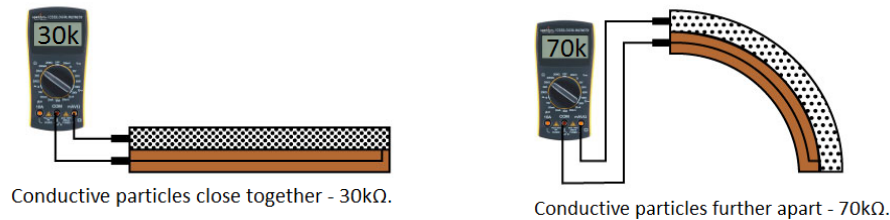

Figure 1: Operating Principal for Flex Sensor
- Images in Fig. 1 courtesy of sparkfun <https://learn.sparkfun.com/tutorials/flex-sensor-hookup-guide>.